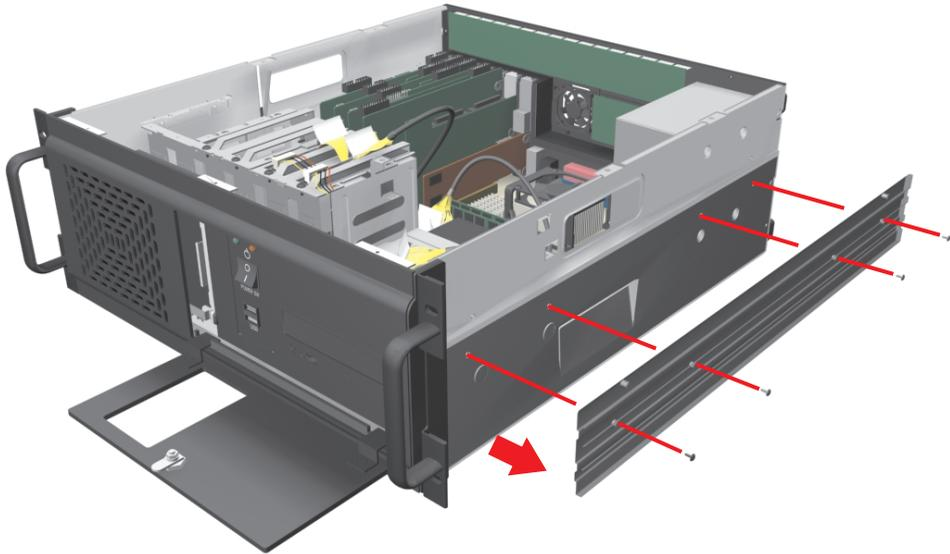

Figure 5. Removing Side Panel
- a. Remove the four screws from the side panel. Refer to Figure 5.